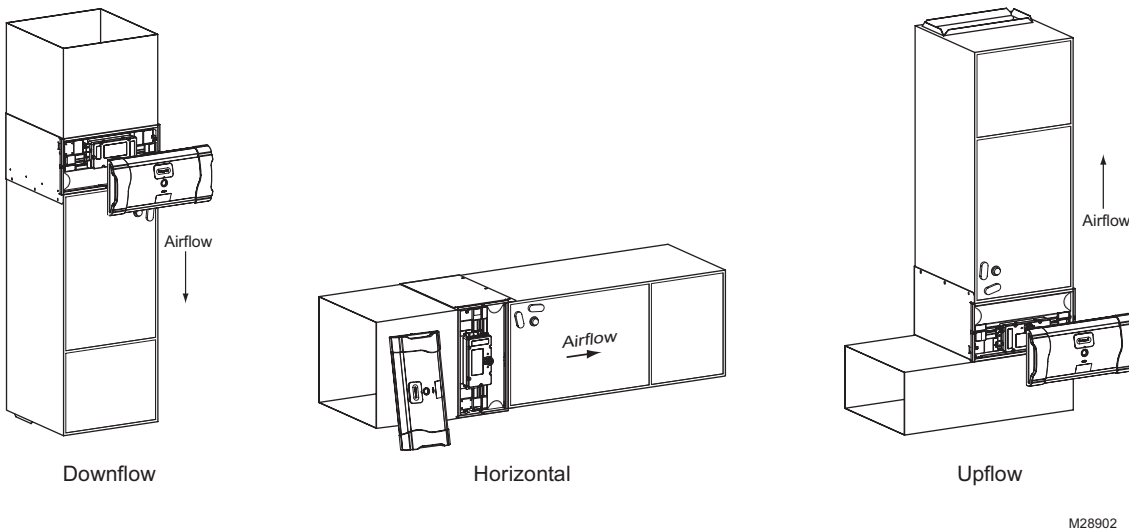
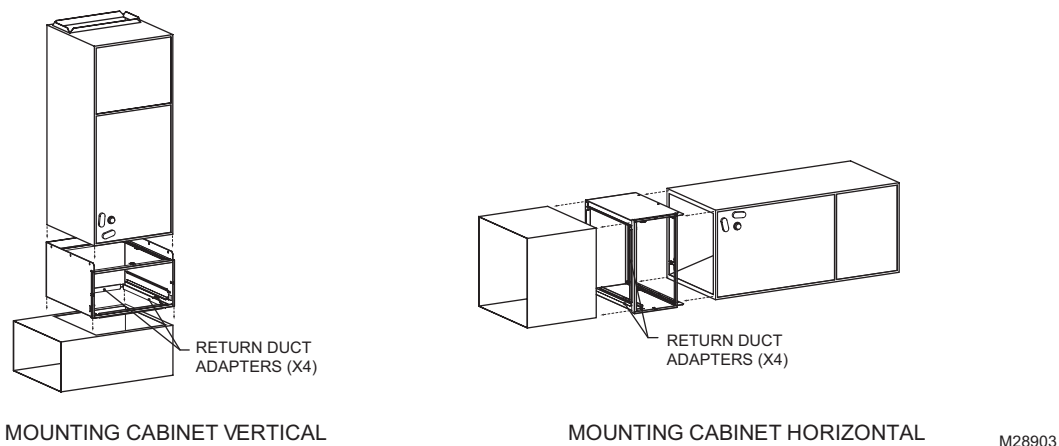

Fig. 4. Cabinet Orientation for FH8000A models.
Fig. 5. Orientation for FH8000A models for Air Handlers.
- Identify a mounting orientation for the Honeywell Enhanced Air Cleaner in the return air duct (see Fig. 4).
- d. Position the cabinet between the air handler and return air duct (see Fig. 4 on page 7 and Fig. 5). A transition duct may be required.